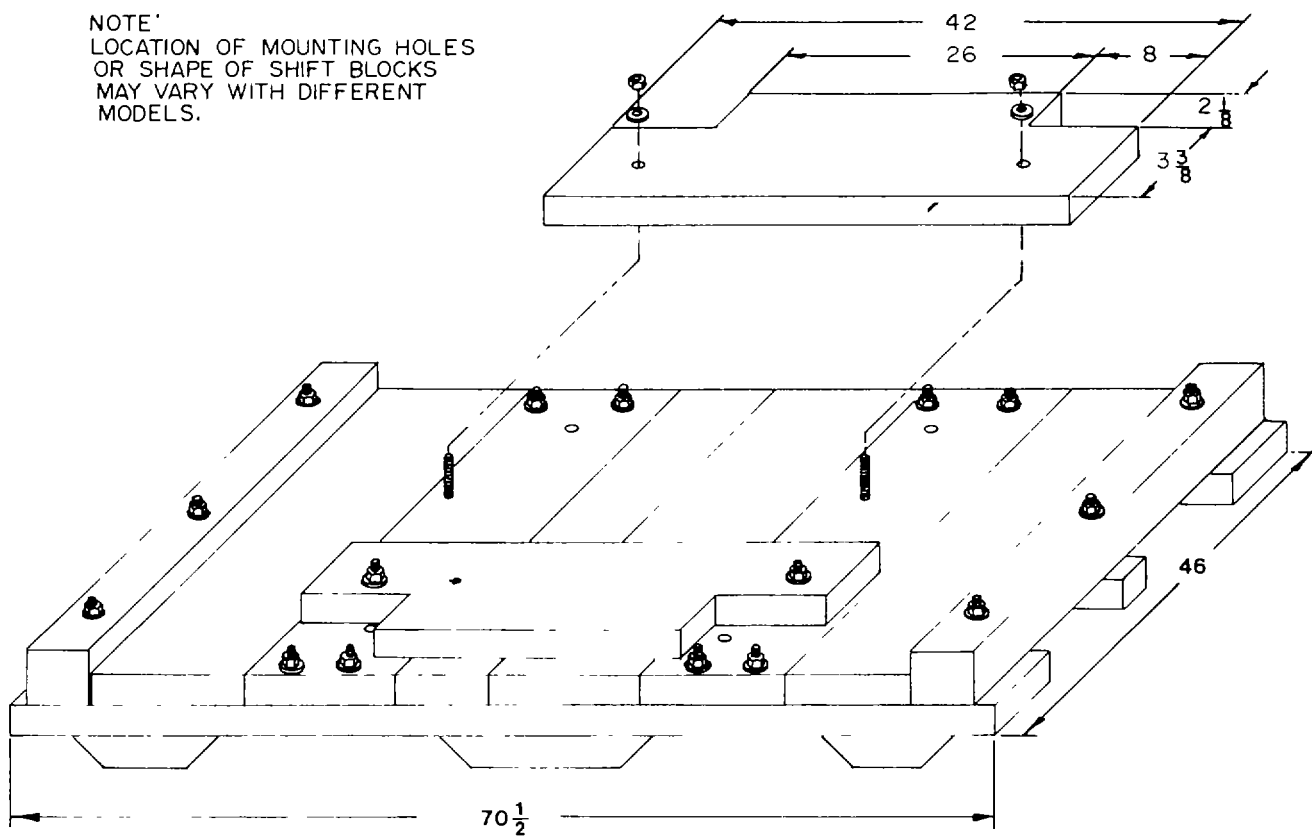
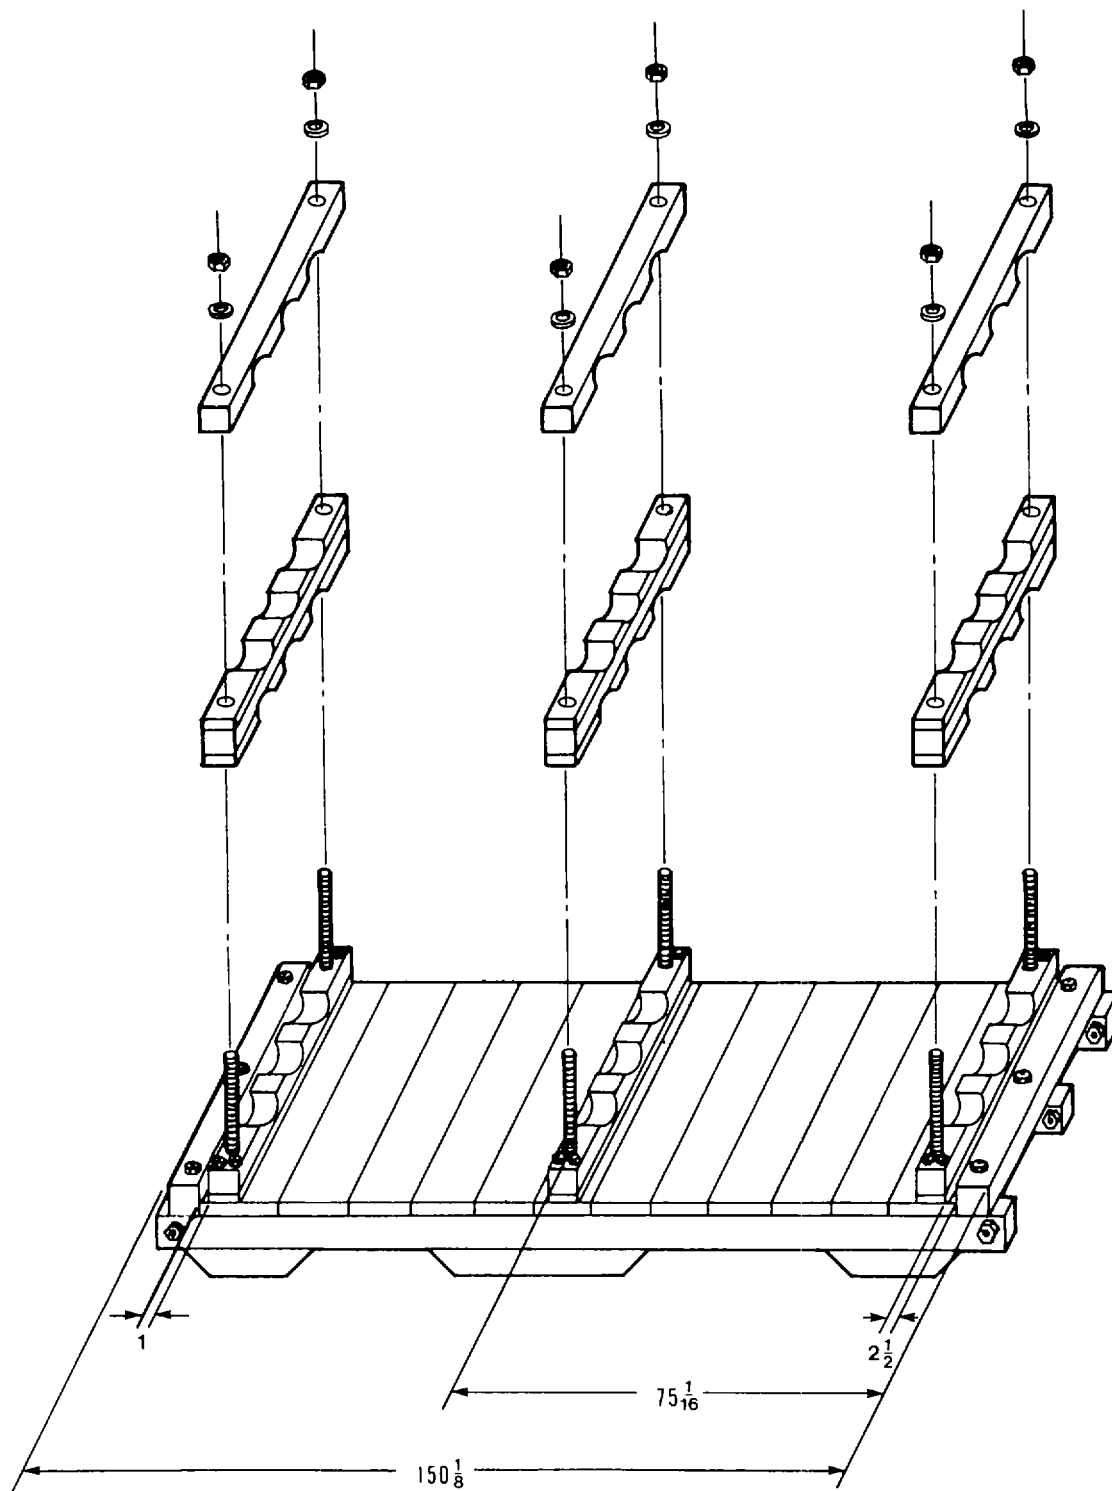

Figure B-2-5. Location of Blocking for the Air Receiver Tank.
Figure B-2-6. Location of Blocking for the Exhaust Pipes (1500 KW).
<p>2 cont</p>	<p>i. Packing for the Air Receiver Tank.</p> <p>(1) Fabricate a MIL-B-26195 box (70-1/2 x 46 x 43-1/2) in accordance with appendix D-2. Refer to table B-2-7 for a list of materials.</p> <p>(2) Cover base with MIL-B-121 barrier.</p> <p>(3) Mount air receiver tank on base and secure with 1/2- x 4-1/2-inch FF-B-584 bolts, NN-W-902 washer, and FF-N-92 nuts. Refer to figure B-2-5 for location of blocking.</p> <p>(4) Place crate top over air receiver tank and secure to base with FF-W-92 washer and FF-B-561 lag bolts (3/8 x 3-1/2).</p> <p>(5) Mark container in accordance with appendix E and the following: Mark all four sides of the container with 2-inch minimum size letters to indicate "REUSABLE CONTAINER - DO NOT DESTROY."</p> <p>j. Battery Jumper Cables.</p> <p>(1) Coat cable connectors with MIL-S-8660 silicone. Wrap with MIL-B-121 barrier and secure with PPP-T-60 tape.</p> <p>(2) Place in a PPP-B-636 fiberboard box (16 x 6 x 4). Seal box with PPP-T-76 tape.</p> <p>(3) Pack with the power and control cables.</p> <p>k. Preservation of the Exhaust Pipes, Elbows, and Silencers.</p> <p>(1) Atomize spray interior surfaces of exhaust pipes, elbows, and silencers with MIL-L-21260, type I, grade 30 preservative oil.</p> <p>(2) Tape off ends with MIL-T-22085 tape. PPP-T-60 tape may be used as a substitute.</p> <p>l. Packing for the Exhaust Pipes for 1500 KW.</p> <p>(1) Fabricate a MIL-C-104 crate (158 x 55 x 45) and cradles in accordance with appendix D-3 and figure B-2-6. Refer to table B-2-8 for a list of materials.</p>